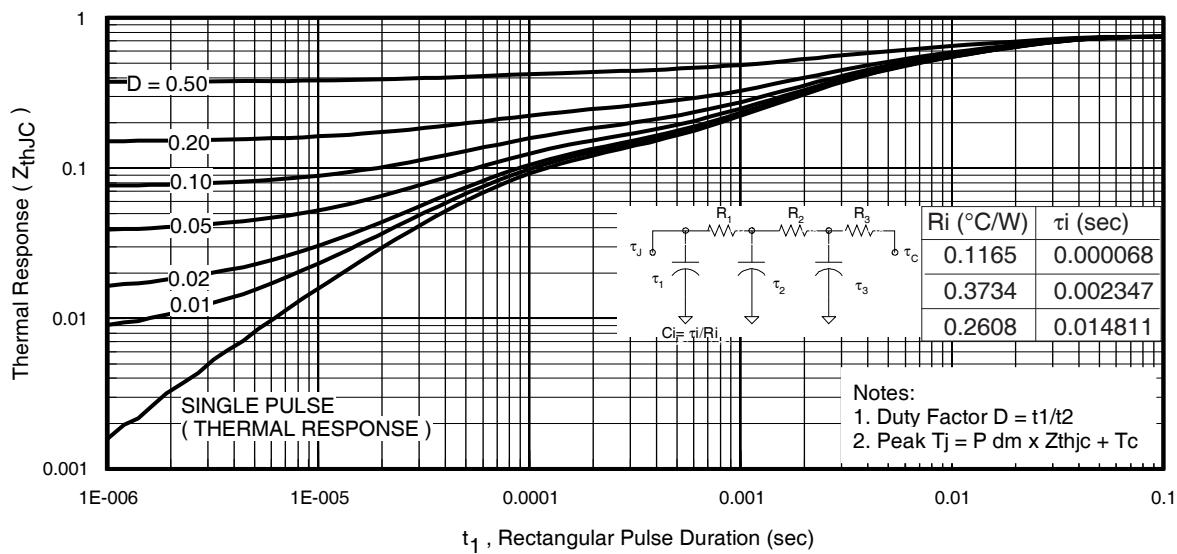
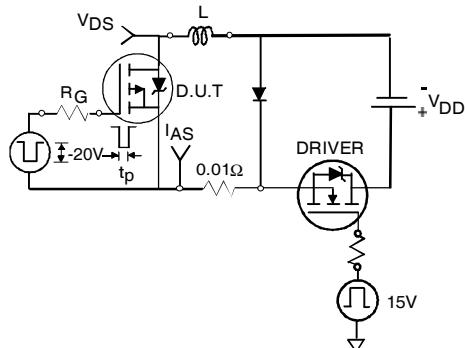

Fig 11. Maximum Effective Transient Thermal Impedance, Junction-to-Case
Fig 12a. Unclamped Inductive Test Circuit
- ① Repetitive rating; pulse width limited by max. junction temperature. (See fig. 11).
- ② Limited by T_{Jmax} , starting $T_J = 25^\circ\text{C}$, $L = 0.16\text{mH}$ ⑥ $R_G = 25\Omega$, $I_{\text{AS}} = -42\text{A}$, $V_{\text{GS}} = -10\text{V}$. Part not recommended for use above this value.
- ③ Pulse width $\leq 1.0\text{ms}$; duty cycle $\leq 2\%$.
- ④ $C_{\text{oss eff.}}$ is a fixed capacitance that gives the same charging time as C_{oss} while V_{DS} is rising from 0 to 80% V_{DSS} .
- ⑤ Limited by T_{Jmax} , see Fig.12a, 12b, 15, 16 for typical repetitive avalanche performance.
- ⑥ This value determined from sample failure population. 100% tested to this value in production.
- ⑦ This is applied to D²Pak, when mounted on 1" square PCB (FR-4 or G-10 Material). For recommended footprint and soldering techniques refer to application note #AN-994.
- ⑧ R_θ is measured at T_J approximately 90°C
3. Equation below based on circuit and waveforms shown in Figures 12a, 12b.
- $Z_{thJC}(D, t_{av})$ = Transient thermal resistance, see figure 11)